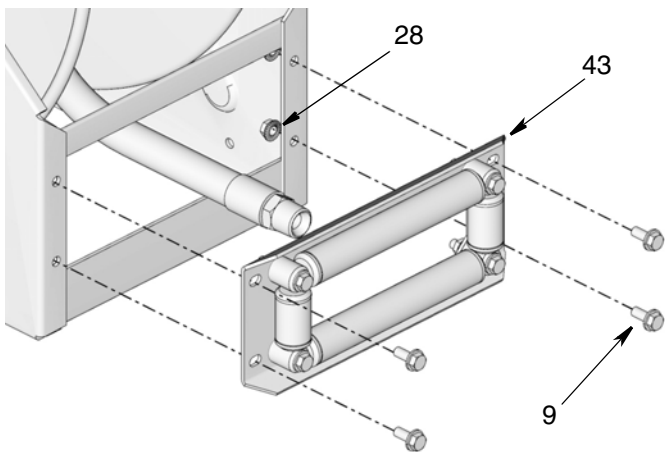

FIG. 71
- Remove screws (9) and nuts (28) to remove roller plate (43) (FIG. 71).